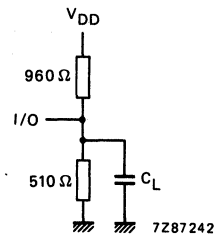

Fig. 4 Load for a.c. test conditions
$V_{DD} = 5\text{ V} \pm 0,5\text{ V}$; $V_{SS} = 0\text{ V}$; $T_{amb} = -25\text{ to } +70\text{ }^{\circ}\text{C}$; measured in Fig. 4, $C_L = 100\text{ pF}$; unless otherwise specified
A.C. TEST CONDITIONS (see Fig. 4)